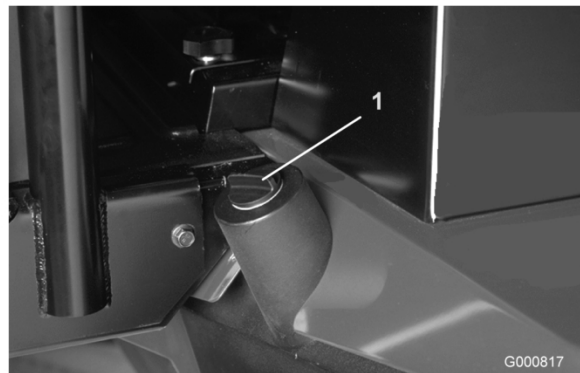

Figure 22
2. Clean area around filler neck and cap of hydraulic tank (Figure 22). Remove cap from filler neck.